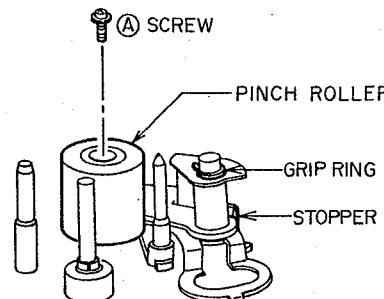

Fig. 3-17
- 1) Remove the ④ screw, then remove the PINCH ROLLER part, as shown in fig. 3-17
- 2) Set the pinch roller so that white plastic spacer side faces chassis when replacing. Then tighten the ④ screw.